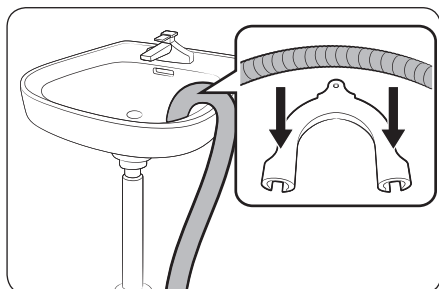

Fig.7
- Hook the U-Connector over the side or stand pipe (Fig.7.)